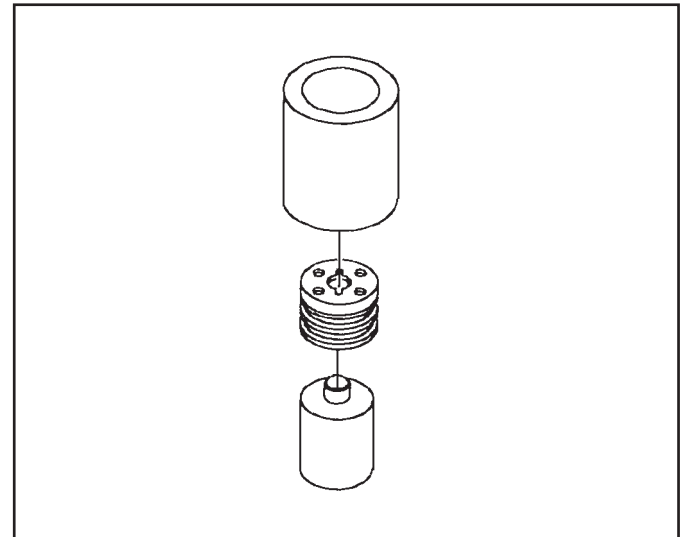

Figure 165
6. Once the ring has been installed, size the sealing ring by placing the sizer over the hub, with the large internal diameter down, until it bottoms out on the work table (See Figure 165).